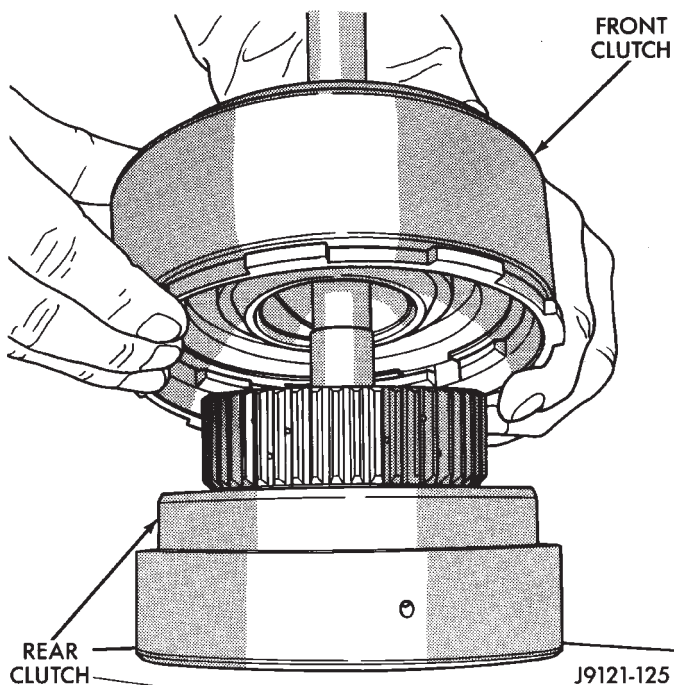

Fig. 76 Separating Front Clutch From Rear Clutch
(19) Lift front clutch off rear clutch (Fig. 76). Set clutch units aside for overhaul.